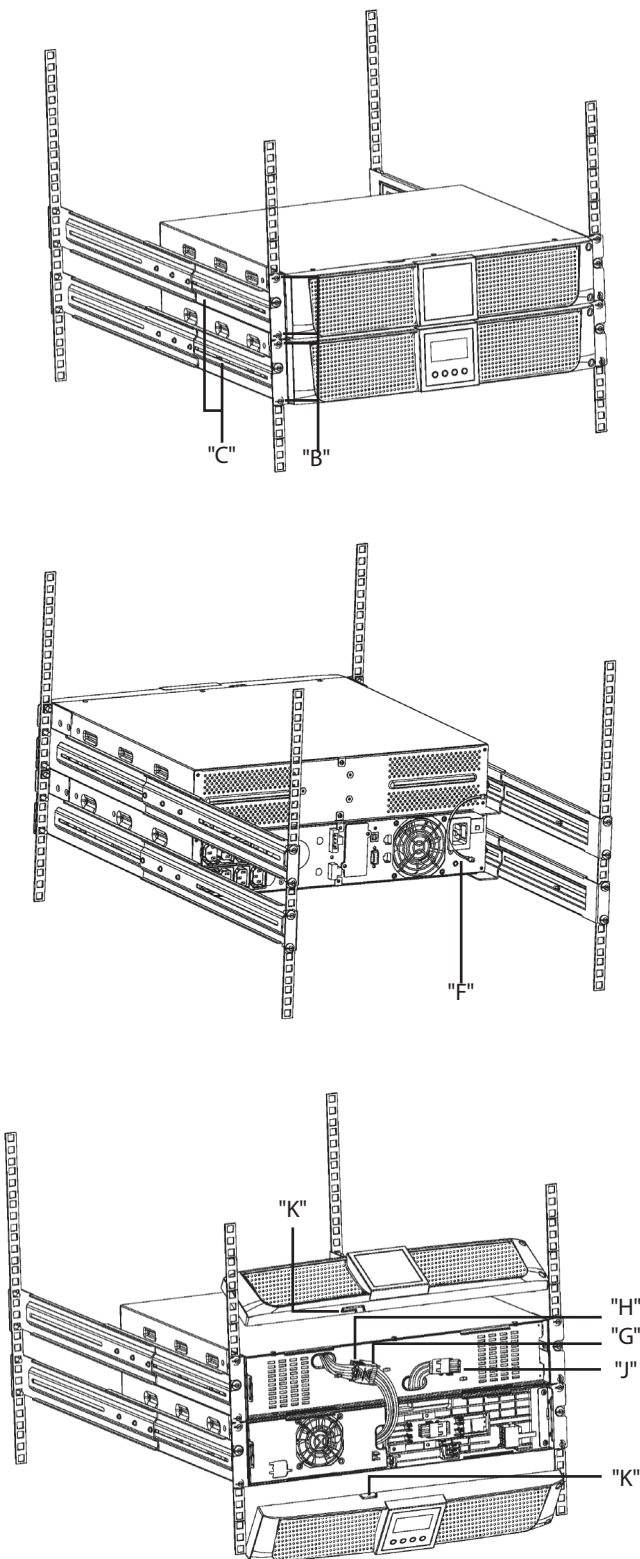

Fig. 10. 19" rack cabinet assembling, with extended back up time (battery module).
- This section describes a single equipment with only one battery module (see figure 10). For higher quantity of modules reproduce the connection procedure among them.